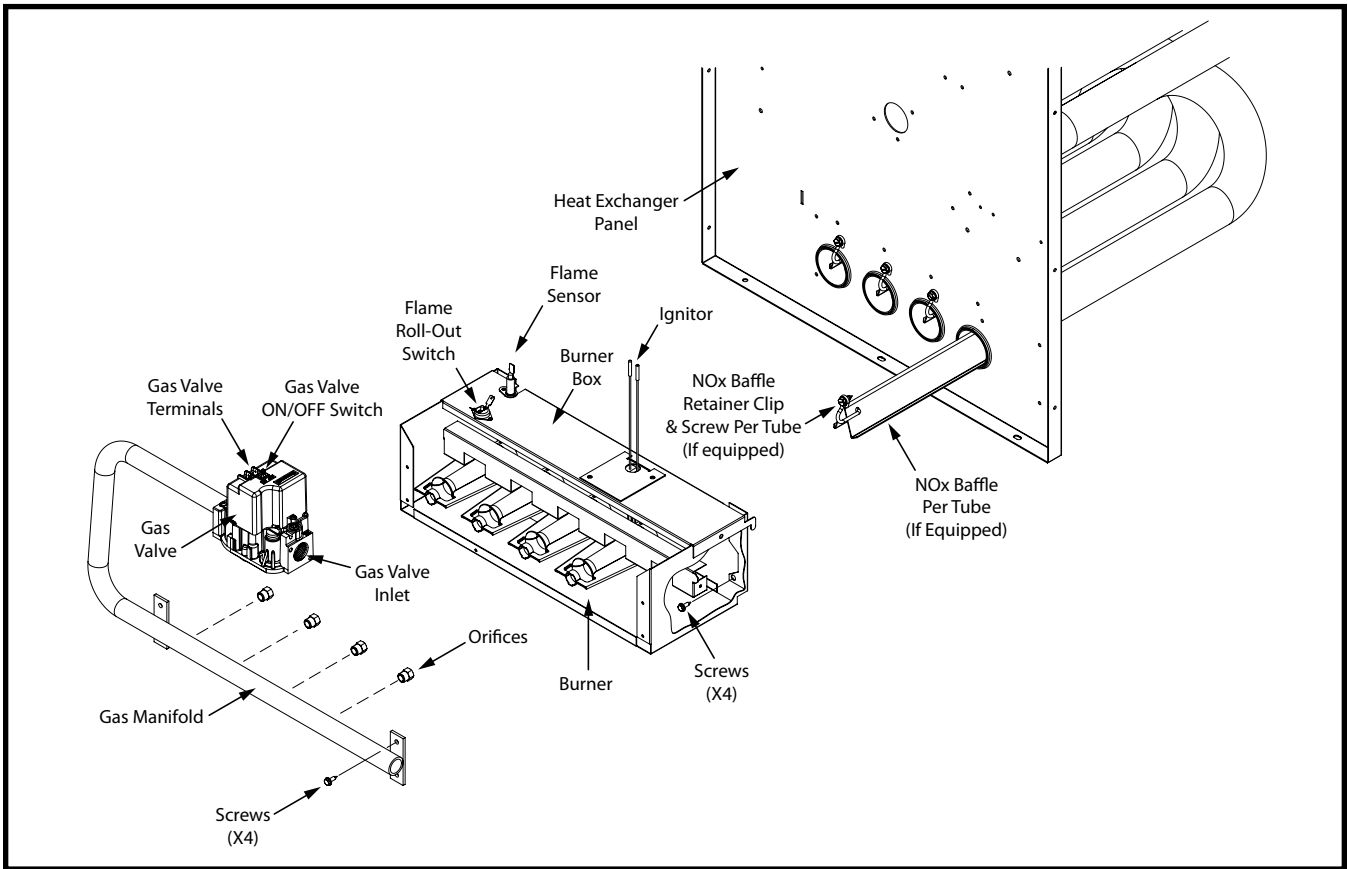
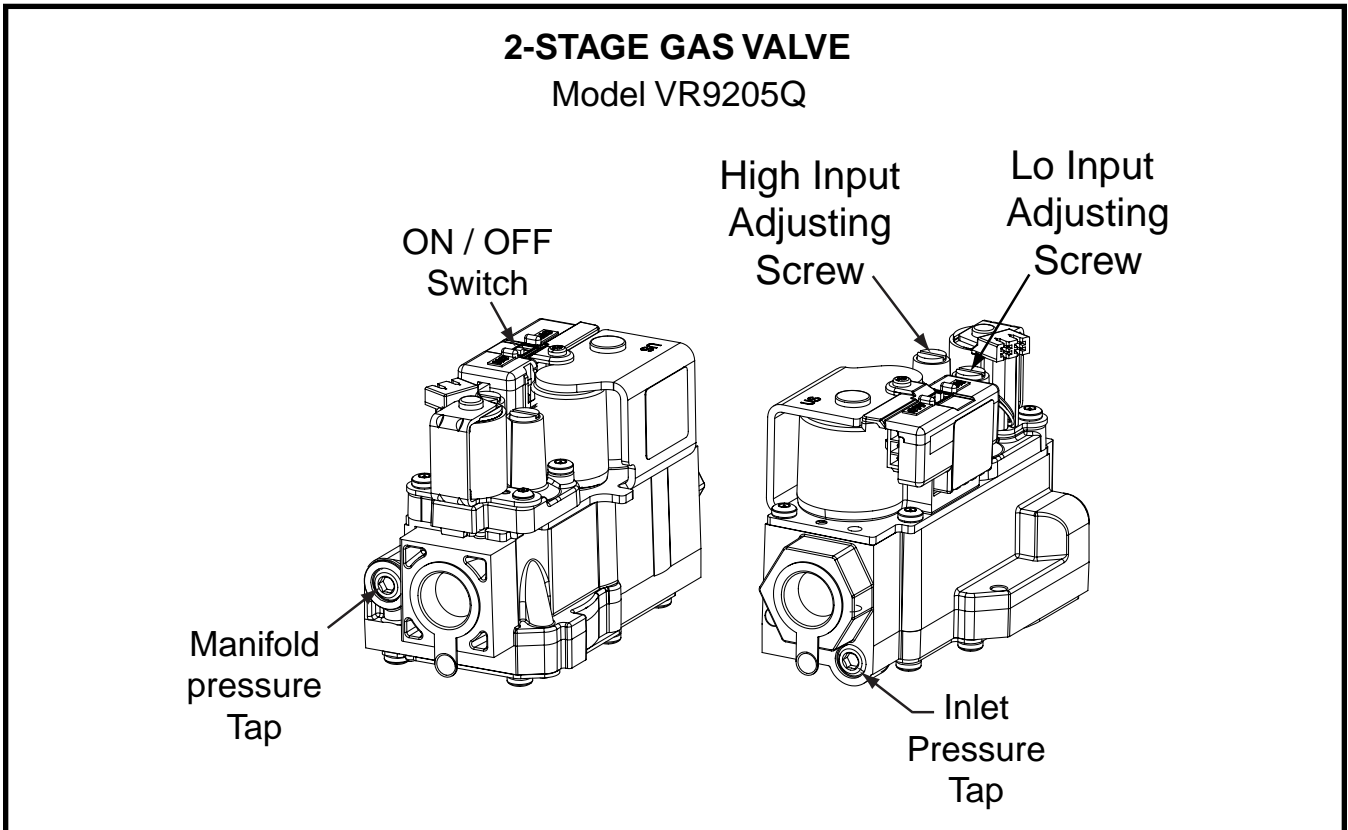

Figure 8. Burner & Manifold Assembly
Figure 9. HI & LO Input Adjusting Screws
11. Carefully remove the four screws inside the burner box (2 at each end), securing the complete burner box assembly to the heat exchanger panel as shown in Figure 8 \(page 23\). **BE EXTREMELY CAREFUL NOT TO DAMAGE THE IGNITOR WHILE REMOVING THE BURNER ASSEMBLY.**
8. Carefully remove the four screws inside the burner box (2 at each end), securing the complete burner box assembly to the heat exchanger panel as shown in Figure 8 \(page 23\). **BE EXTREMELY CAREFUL NOT TO DAMAGE THE IGNITOR WHILE REMOVING THE BURNER ASSEMBLY.**
| High Pressure Switch | Opens 650 ±15 psig, recloses 460 ±15 psig | See Figure 8 & Figure 9 |